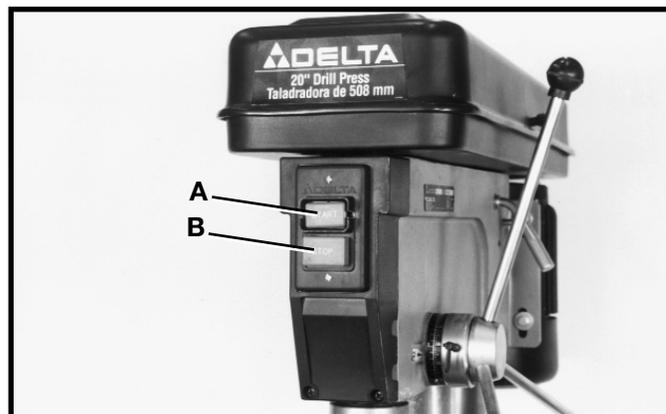

Fig. 23
The start/stop buttons are located on the front of the drill press head. To start the machine, press the start button (A) Fig. 23, and to stop the machine, press the stop button (B).